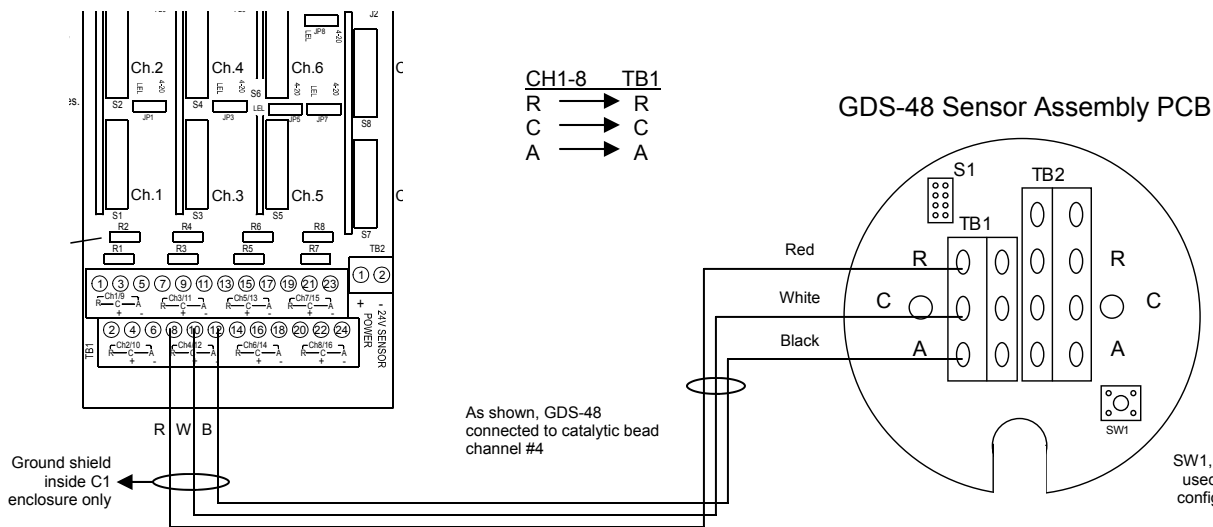

Fig 3. C1 Controller to GDS-48 Wiring Diagram for Catalytic Bead
- 2) Connect the C1 to the remote sensor housing as shown in Fig. 3.